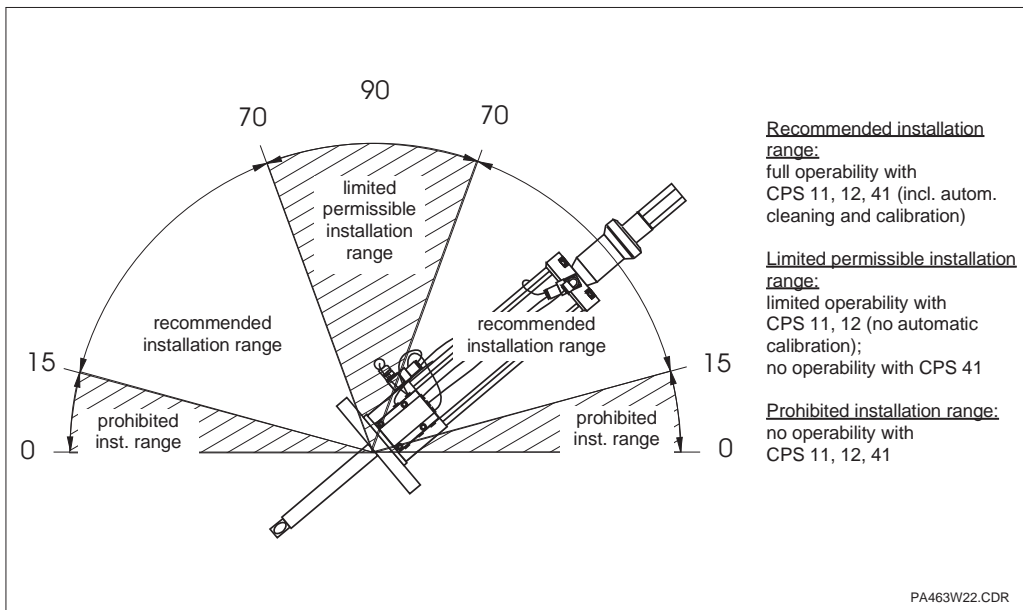

Bild 3.8 Installation angles of the assembly
- Install the assembly according to the recommended installation angles (fig. 3.8).